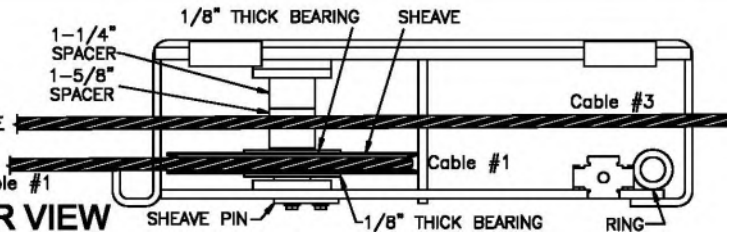

Fig 7 – Idler Runway Single-Stack
- 10) Then route **Cable #1** through the rear of the Idler Runway. Reinstall the rear idler runway sheave, bearings, and spacers being sure to set the cable into the Sheave channel as shown in Fig 7 & 12.